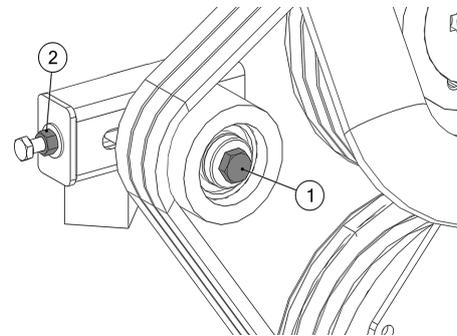

Figure 27 - Tensioner Pulley Assembly
2. Use a 19 mm spanner to loosen the bolt in the centre of the tensioner pulley until the pulley is able to slide with minimal wobble (Figure 27, Item 1).
3. Turn the nut on the end of the tensioner pulley slider until the correct belt tension is achieved (Figure 27, Item 2). (Refer to Section 5.11 "V- Belt Tensioning Procedure" on page 46.)